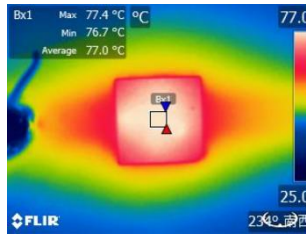

Figure 33. Example of a Temperature Measurement with an Infrared Thermal Imaging Camera
The T_T cannot be measured accurately with a thermocouple since the adhesive used to attach the thermocouple will generate heat when the LEDs are illuminated. Nichia recommends performing a non-contact temperature measurement using an infrared thermal imaging camera (see Figure 33). With an infrared thermal imaging camera, it is possible to identify the hottest LED on the PCB, to detect any LEDs that are generating heat abnormally, etc. since the camera can evaluate the temperature distribution.
- Select an infrared thermal imaging camera that has sufficient resolution. The T_T may vary depending on where it is measured on the LED surface; the T_T values may be different at the center (i.e. right above the LED chip) and at an edge of the surface. See Figure 33. With an infrared thermal imaging camera whose resolution is insufficient, the T_T may be measured to be lower than the actual temperature since the different temperatures on the LED surface cannot be captured independently with the camera and will be averaged.